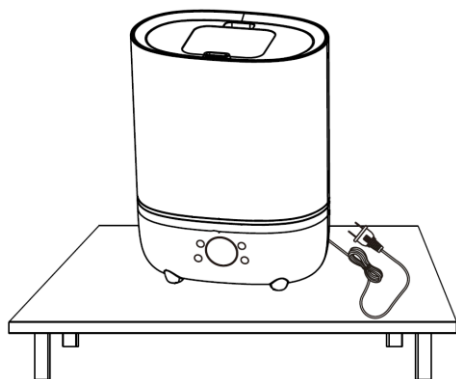

Fig. 2
- 1. Place the device on flat and dry surface. Unplug the device (fig. 2)